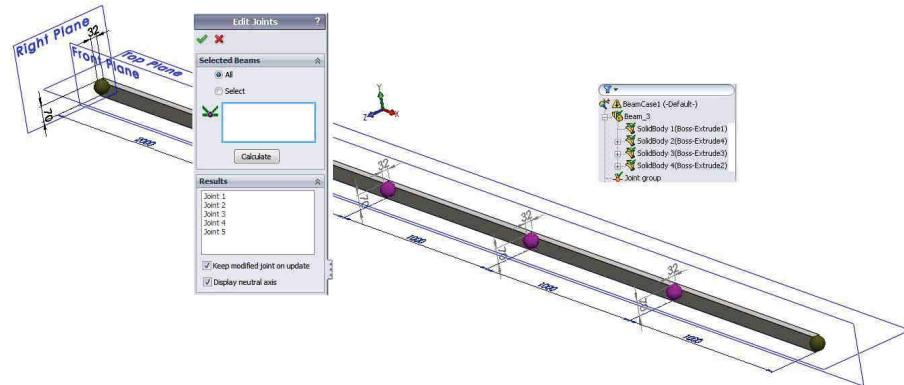

Fig. 6.6
- Click dreapta pe fiecare dintre geometriile **SolidBody 1 (Boss-Extrude1)** ... **SolidBody 4 (Boss-Extrude4)** și selectie **Treat as Beam**, fig. 6.6.
- În secțiunea **Edit Joints** PropertyManager sub zona **Selected Beams**, click **Calculate**, fig. 6.6. Patru noduri vor apărea sub **Results**.
- În ramura **Beam\_3** vor apărea patru icoane de tip , iar în arborele Simulation va apărea ramura **Joint group**, fig. 6.6 .
- Right-click on every geometry **SolidBody 1 (Boss-Extrude1)** ... **SolidBody 4 (Boss-Extrude4)** and select **Treat as Beam**, fig. 6.6.
- In the **Edit Joints** PropertyManager under **Selected Beams**, click **Calculate**, fig. 6.6. Four joints appear under **Results**.
Four beam icons appear in the **Beam\_3** folder and a **Joint group** folder appears in the Simulation study tree, fig. 6.6.